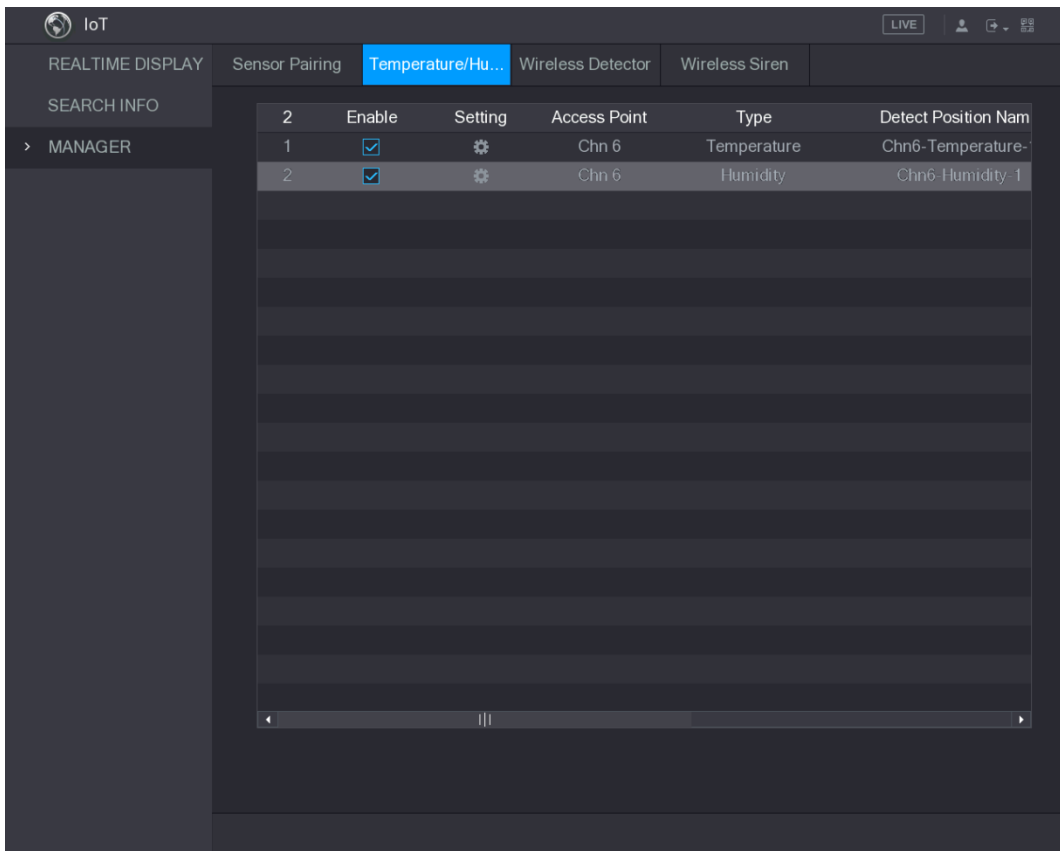

Figure 5-184
**Step 2** Select the **Enable** check boxes to enable IoT function. See Figure 5-184.